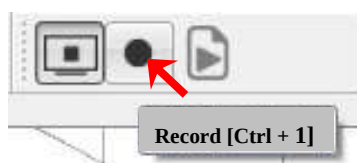

Figure 3-13 Record buttons
- ① Connect UST with Area Designer.
- ② Click record button as shown in figure 3-13.